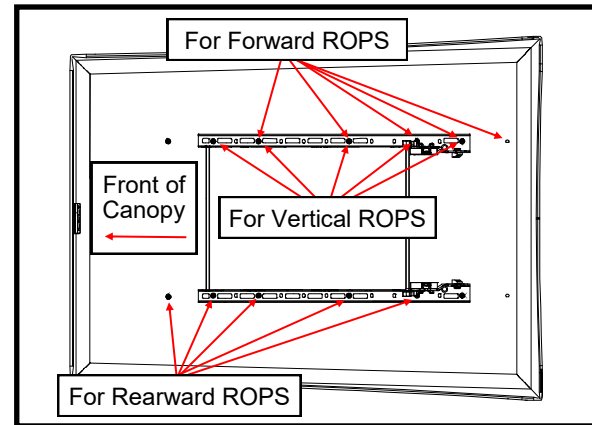

Fig. 4a (Hole Alignment)
- See figures 4a and b. Engage the latching frame into the striker plate. Position the canopy on top of the frame. The frame has multiple slots in it to allow the canopy to move front to back a total of 12".